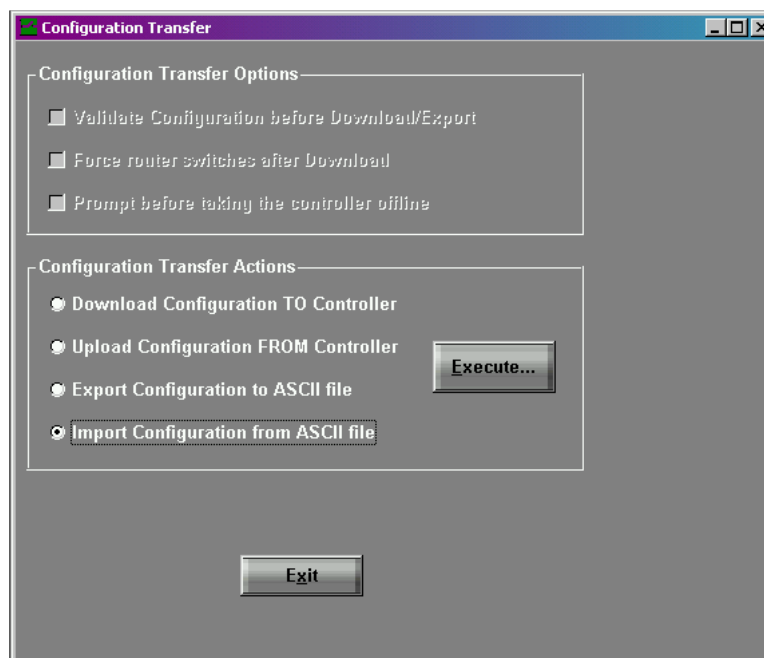

Figure 69: Import a Configuration from an ASCII File
2. Select File > Transfer Configuration (see Figure 69).